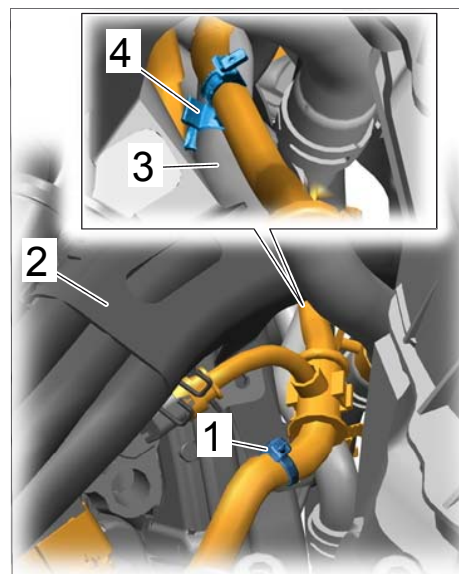
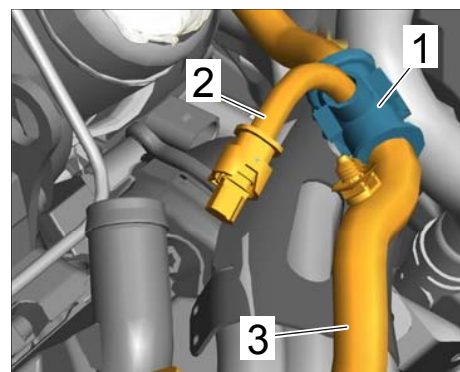

Figure 10
Figure 14
- 5.5 Unclip tie-wrap on the main wire harness ⇒ *Figure 10 -item 1-* close to the holder for the high-voltage wires ⇒ *Figure 10 -item 2-*.
- 5.6 Unclip wire clip on the main wire harness ⇒ *Figure 10 -item 4-* at the coolant line ⇒ *Figure 10 -item 3-*.
- 5.12 Open and remove junction ⇒ *Figure 10* **-item 1-** on the main wire harness ⇒ *Figure 14* **-item 3-**.
- 5.13 Remove sleeve on the wire ⇒ *Figure 14* **-item 2-** at the connector. The sleeve will be re-used during installation.